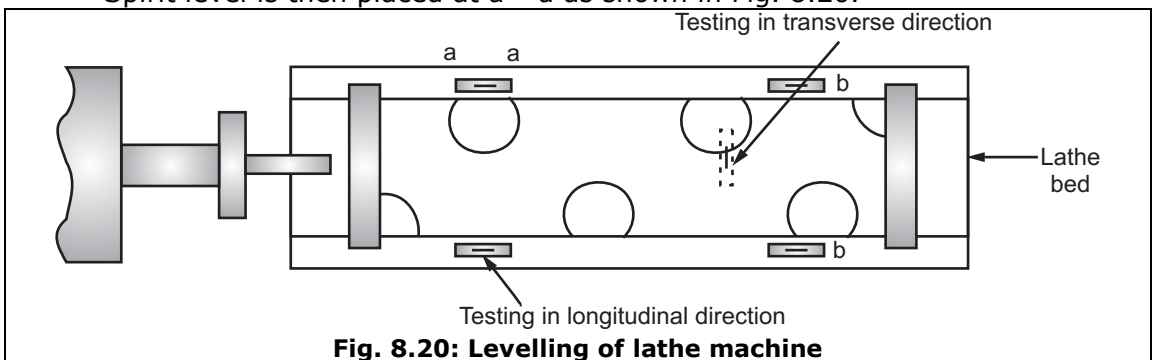

Fig. 8.20: Levelling of lathe machine
- Spirit level is then placed at a – a as shown in Fig. 8.20.